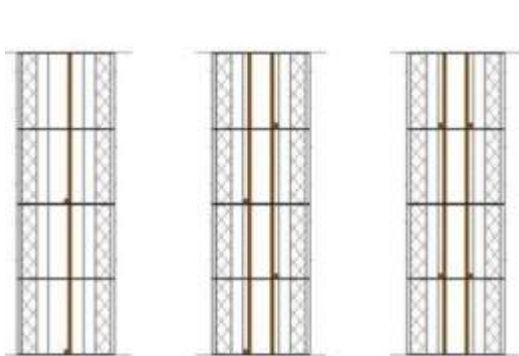

Fig. 24 Horizontal reinforcement bars
- The modulated dimensions of the lattice shall be 10 cm horizontally and 15 cm vertically (see Figs 24 to 29) and in multiples thereof. The securing of the bars through the lattice, shall ensure a correct positioning of the reinforcement after pouring of concrete.